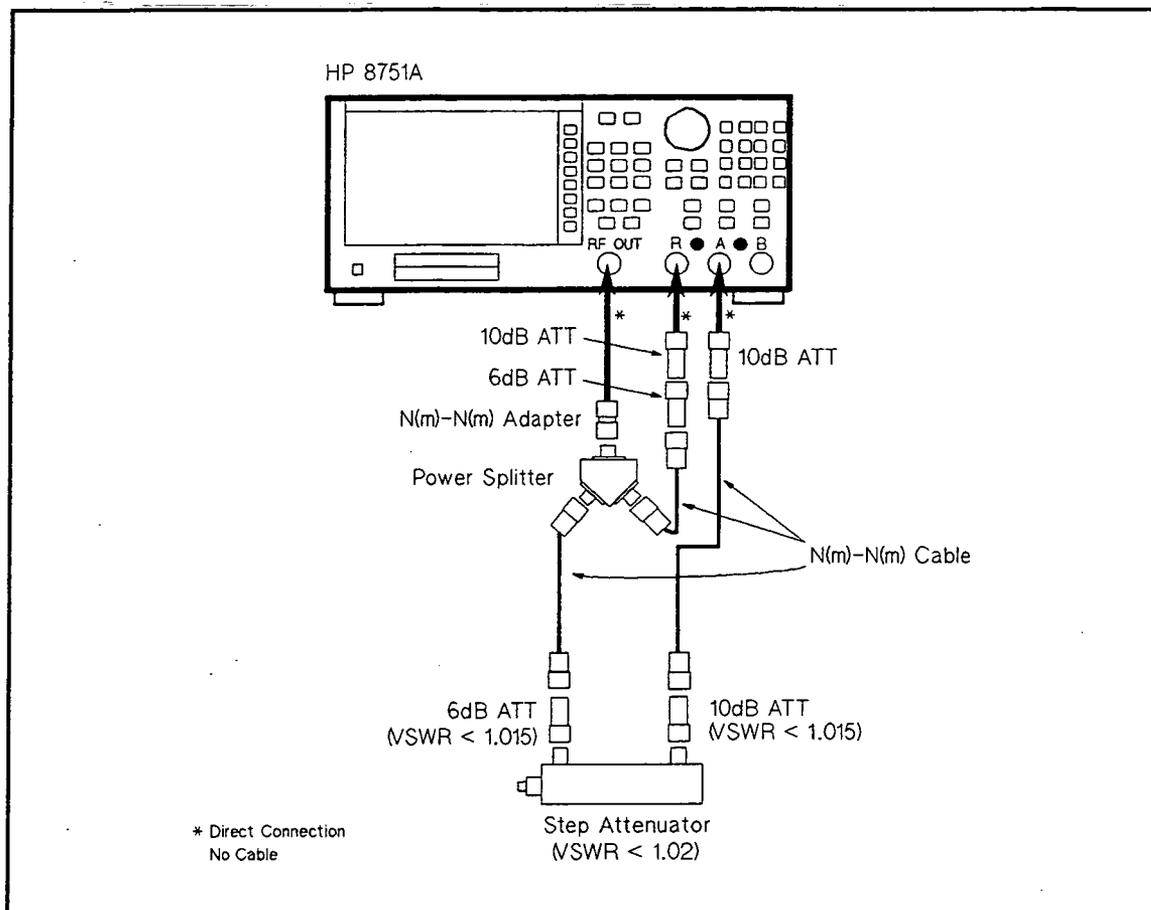

Figure 2-22. Magnitude Ratio/Phase Dynamic Accuracy Test Setup 2
- n. Change the cable connection as shown in Figure 2-22.